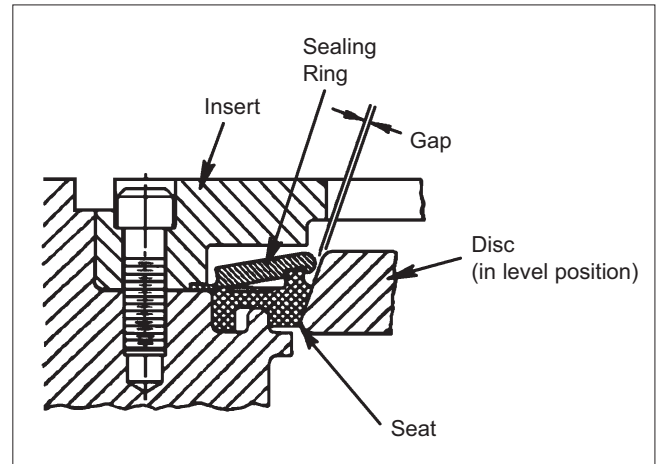
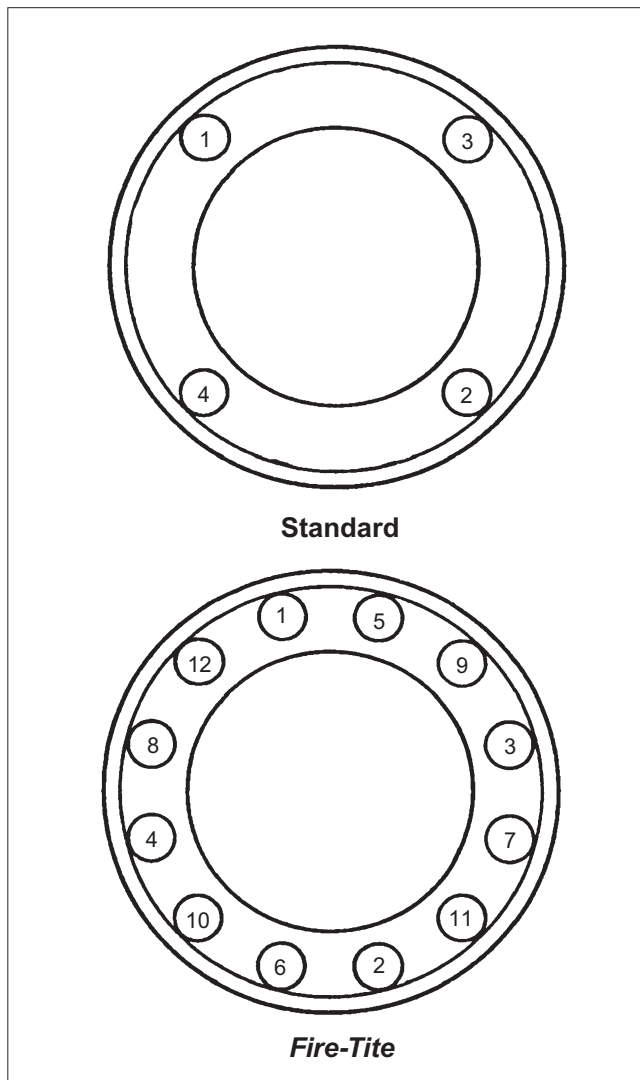
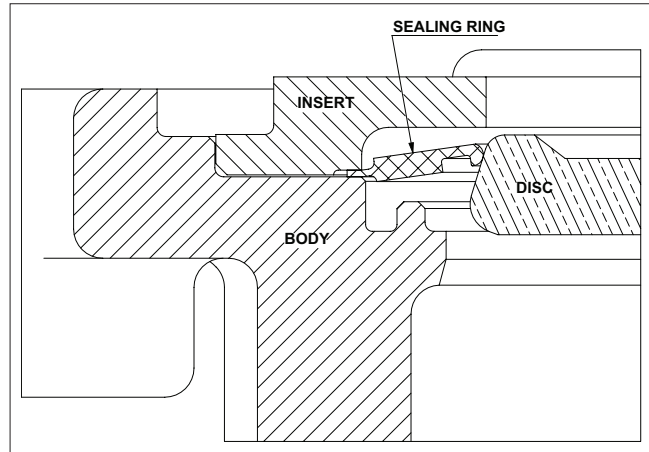

Figure 4. *Fire-Tite* Seat Cross Section
Figure 3. BOLT SEQUENCE
Figure 9.
9. Replace the insert (2) and insert screws (21). Tighten the screws uniformly in a sequence such as shown in (**Figure 3**), to a torque value of 17 – 25 IN•LBS (1.9 – 2.8 N•m) On *Fire-Tite* valves, check the gap between the sealing ring and the disc using feeler gauges. The gap must not vary more than .008" (.2 mm) when checked at six spots equally spaced on the disc (See **Figure 4**). **Note:** After installation of a new seat, torque may be higher for a few cycles.
- i. Install the metal sealing ring (60) and insert (2) (reference **Figure 9**). Install the insert screws (21) and tighten them in sequence per (**Figure 3**), to a torque of 17-25 in-lbs.
- c. Install soft seat (5), insert (2) and metal sealing ring (60) (WSRF ONLY).
- d. Install the insert screws and tighten them in sequence per (**Figure 3**), to a torque of 17-25 in-lbs.